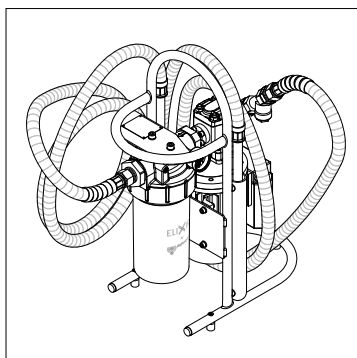
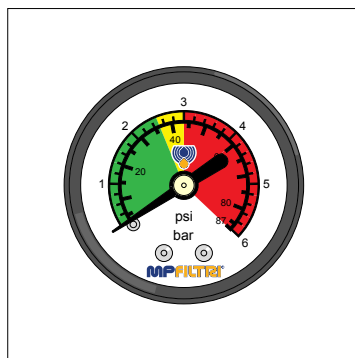

fig. 1
fig. 2
- (Fig. 1) Clogging of the filter element is easily detected by the pressure gauge (Fig. 2) mounted on the filter head. When the pressure reaches 2.5 bar, replace the filter element and at the same time clean the Y-shaped filter in the suction line. The filter is equipped with a bypass valve with a response pressure set at 3.5 bar.